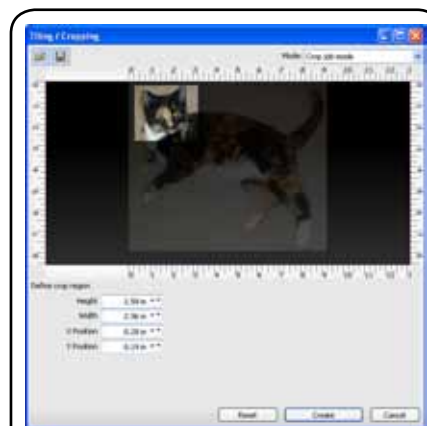

Fig. 27 - Tile a job when it exceeds the media bounds, or crop the design.
- **Tiling and Cropping** – Visually divide (Fig. 27) a large job into tiles by either specifying tile dimensions or dragging tile lines for careful positioning. Overlap and margin amounts are automatically taken into account.